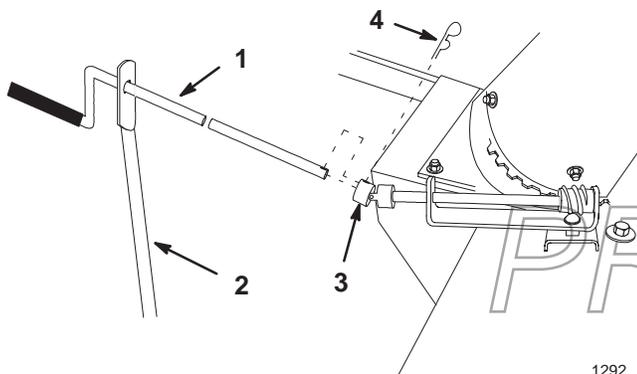

Figure 19
- Remove the hairpin cotter at the U-joint and slide the crank handle out of the support (Fig. 19).